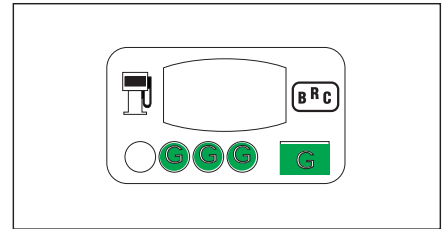

Fig. 39
- The second, the third and the fourth GREEN LED of the encoding and the TWO-COLOURED LED remain fixedly on (fig. 39) and the three LED-BARS of the Diagnostic Box thoroughly turn off.